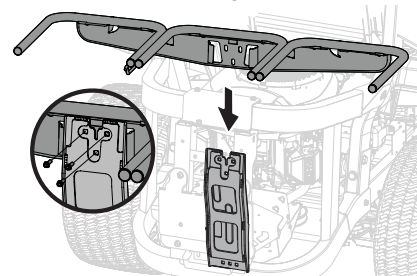

Figure 11
- Install and secure the hanger assembly (683-04498B) onto the vertical bagger support using three carriage bolts (710-0276), three cup washers (736-0242) and three flange lock nuts (712-04063) from hardware pack 689-02619. See Figure 11.